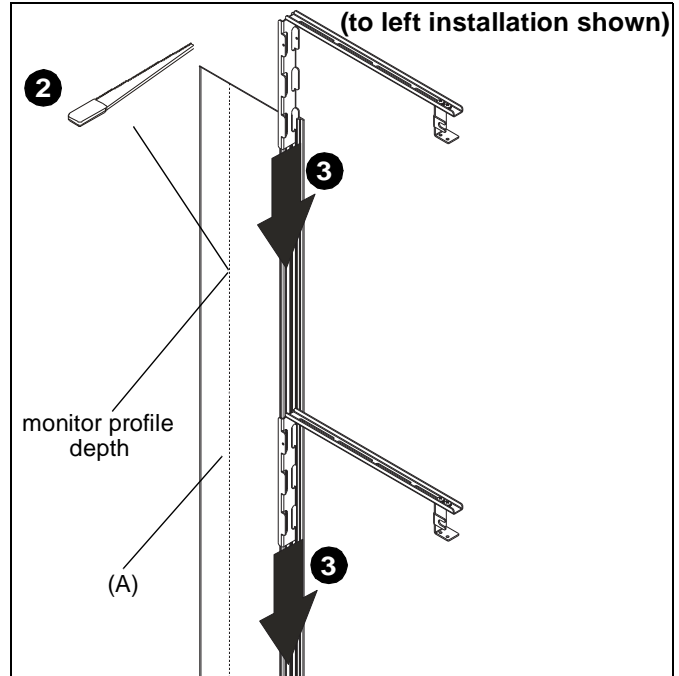

Figure 2
2. Carefully use knife or other appropriate tool to cut side cover (A) to desired width to match the profile depth of the monitors. (See Figure 2)
3. Slide extension brackets (B) into groove on side cover (A). (See Figure 2)